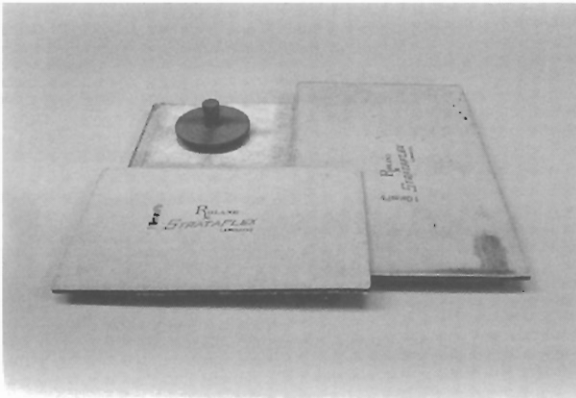

Fig 3-1. Accuracy of timer test using spinning top
- Manually operated spinning top (see Fig 3-1 and Appendix A, page 135).